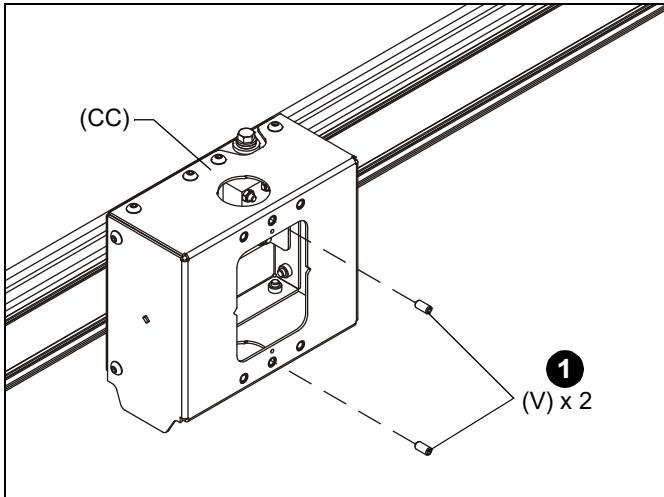

Figure 4
1. Insert two 5/16 x 3/4" set screws (V) into back of ceiling mount (CC). (See Figure 4)